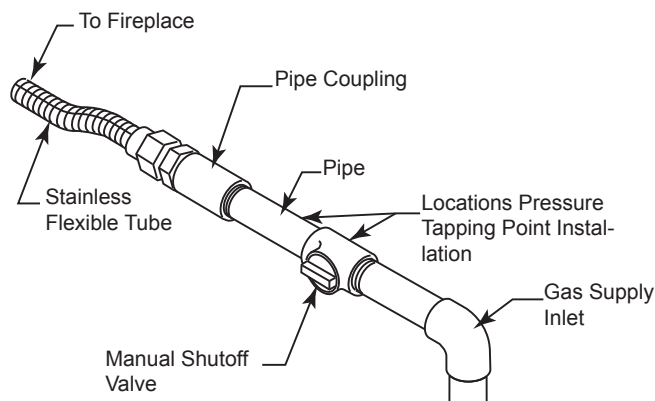

Figure 11. Gas Connection
**WARNING:** Use new black iron or steel pipe. Internally tinned copper or copper tubing can be used per National Fuel Code, section 2.6.3, providing gas meets hydrogen sulfide limits, and where permitted by local codes. Gas piping system must be sized to provide minimum inlet pressure (Listed on Data Plate) at the maximum flow rate (BTU/hr). Undue pressure loss will occur if the pipe is too small. A manual shutoff valve must be installed upstream of the appliance. Union tee and plugged 1/8" NPT pressure tapping point should be installed upstream of the appliance. *Figure 11*